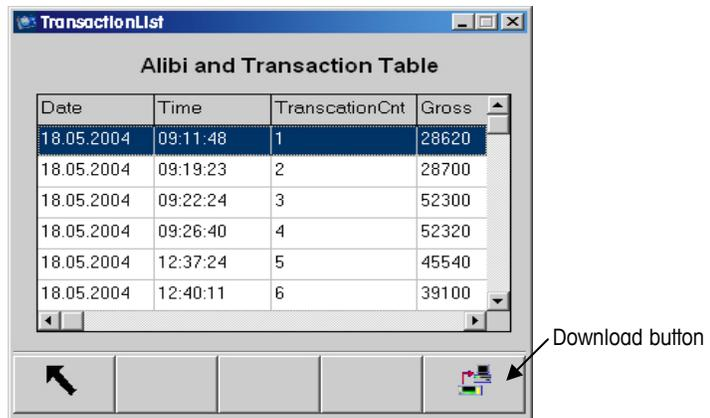

Figure B-20: Alibi & Transaction Table Data
2. Double click on Alibi & Transaction Table. The transaction list displays the Alibi & Transaction Table data (Figure B-20).
3. To download the contents of the Alibi & Transaction Table to a Microsoft Excel spreadsheet, click on the Download Button (Figure B-20). The Export Success dialog box (Figure B-21) displays to indicate the table data was successfully retrieved.